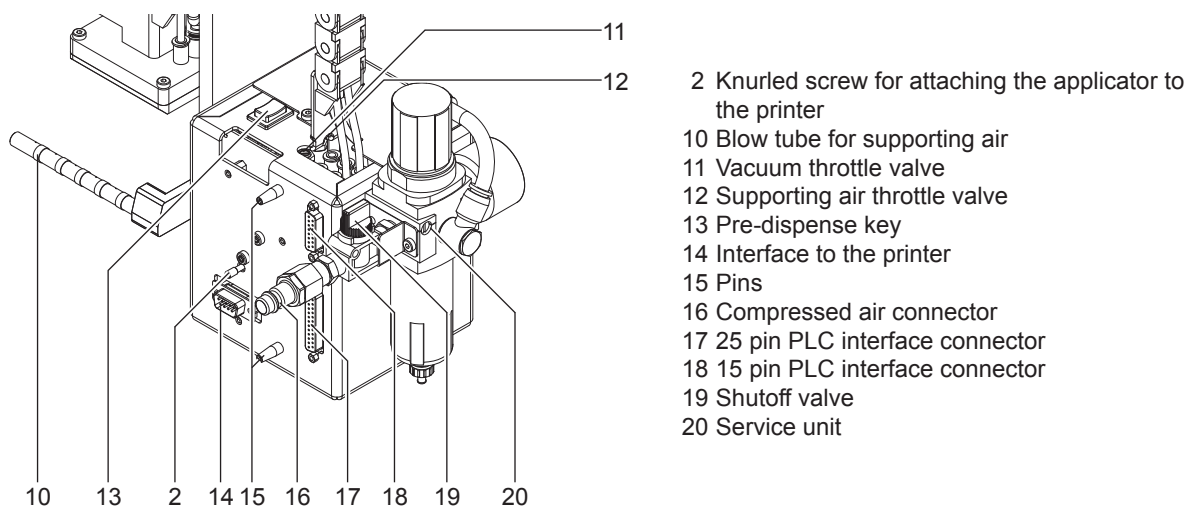

Fig. 3 Rear view
1. Insert the pins (15 / fig. 3) on the back of the applicator (2) into the holes (3) of the printer.
2. Press the applicator against the printer. That way the plug of the applicator will be connected to the peripheral port (4) of the printer.
3. Fix the applicator (2) with the screw (1).